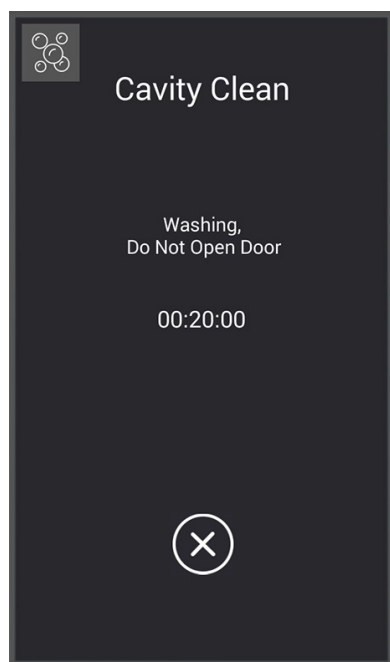

Fig. 69
3. The cleaning cycle will begin and the **Cleaning Cycle In Progress Screen** (Fig. 69) will display showing the time remaining for the cleaning cycle.